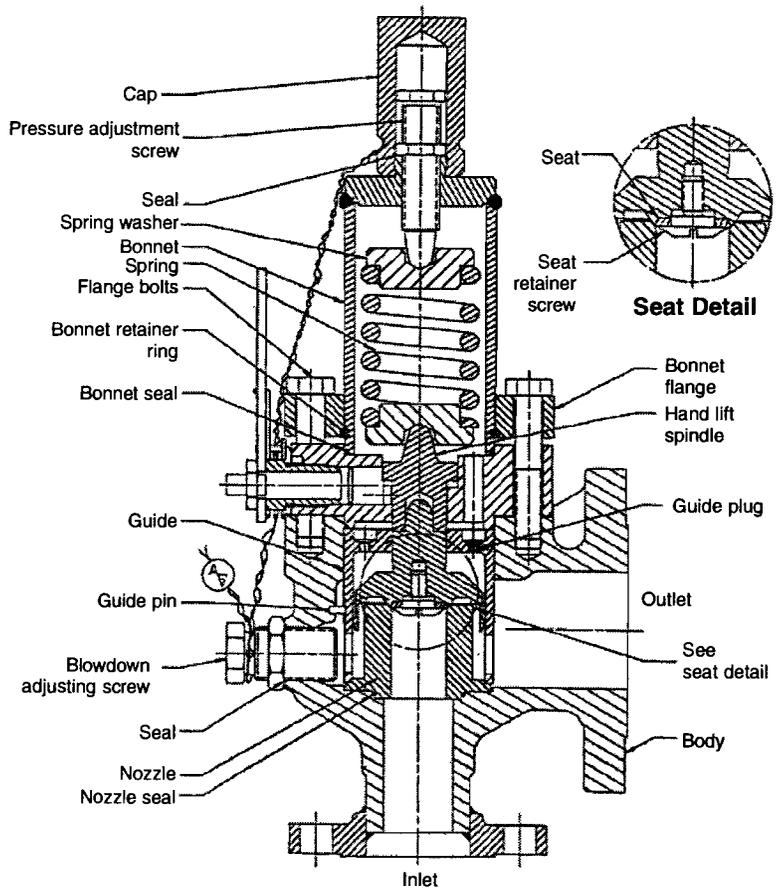

Figure 2
3.0 Valve Repair (G, J Orifice) refer to Figure 2